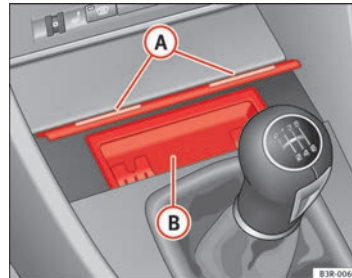

Fig. 131 Centre console: Open ashtray
- Lightly press the front part of the ashtray **A** ⇒ Fig. 131. ▶
- Take hold of the sides of the ashtray **(B)** ⇒ Fig. 131 and lift it out.